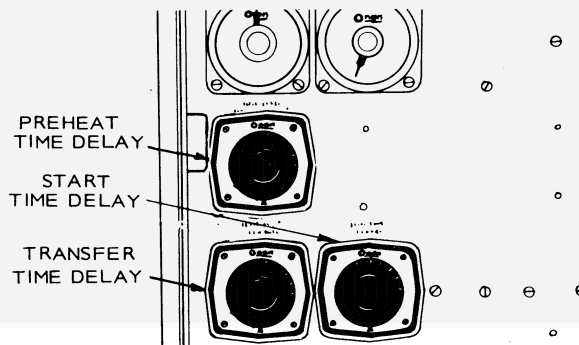

FIGURE 20. START, PREHEAT, AND TRANSFER TIME DELAY RELAYS
2. Turn the knob on the time delay clockwise to increase delay time, counterclockwise to decrease the delay time. See Figure 20.